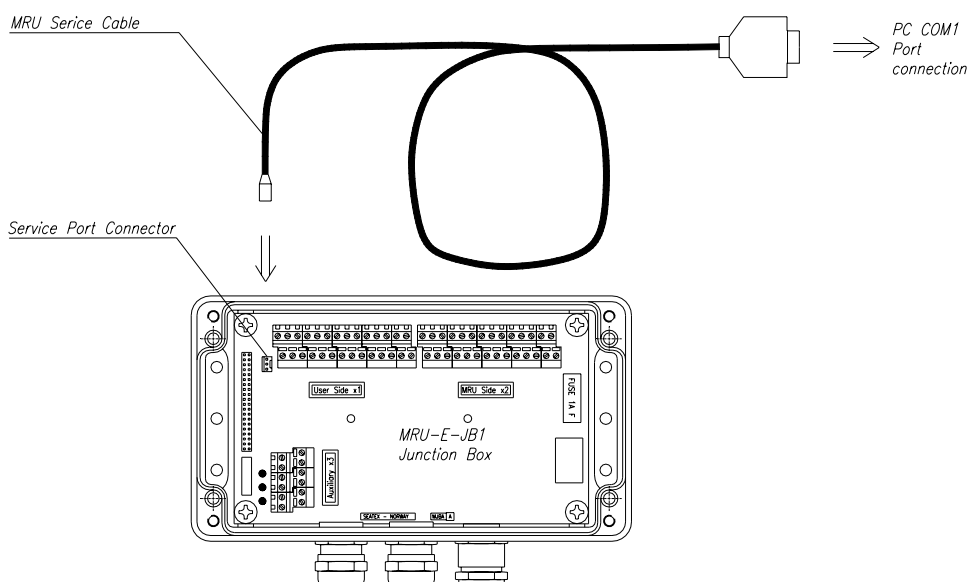

Figure 12 Connection of the service cable to the MRU junction box and the PC
2. Connect the other end of the service cable to the service port connector in the MRU junction box as shown in Figure 12.